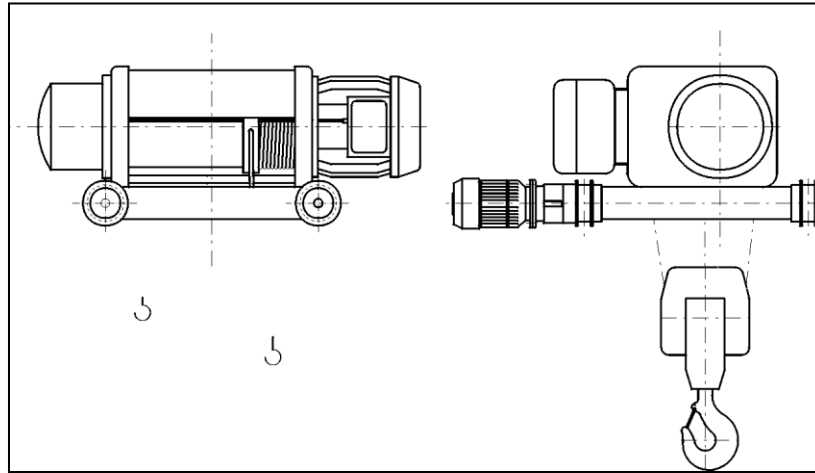

Figure 3.3.3
- Lifting mechanism with double rail trolley (Figure 3.3.3)
Double rail (Double Girder) trolley (Figure 3.3.3).